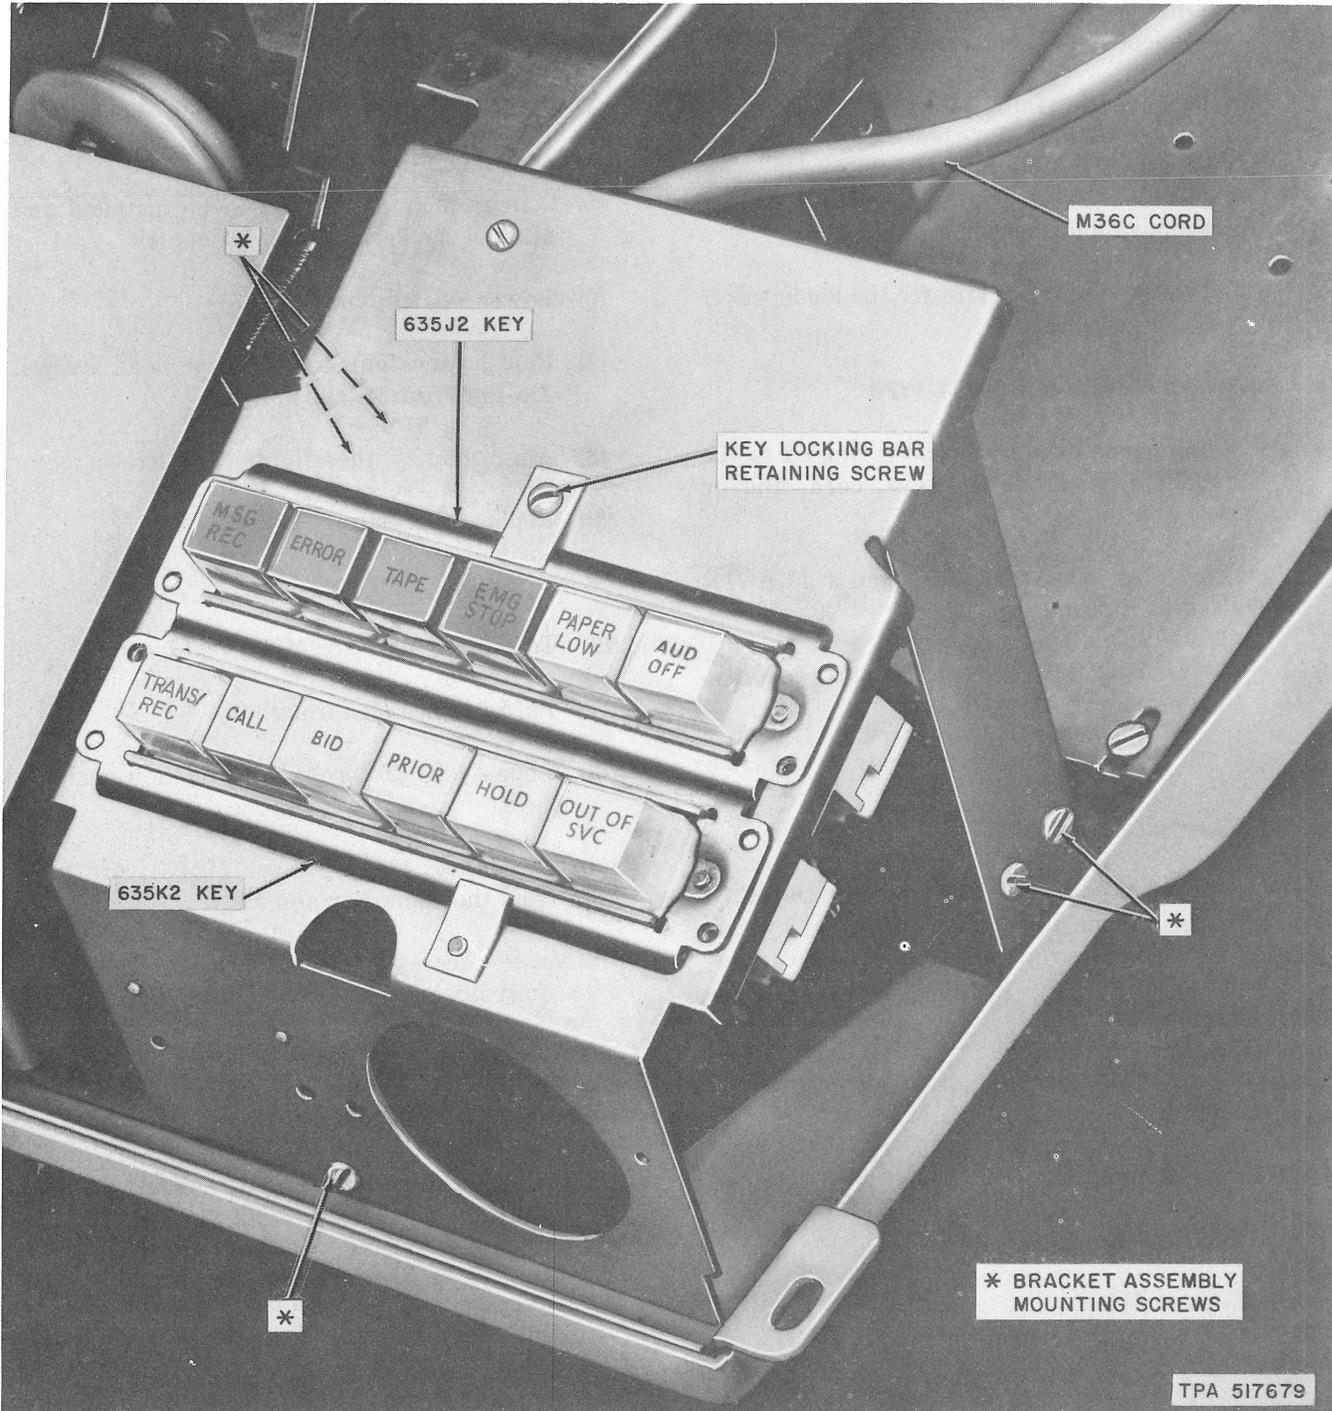

Fig. 8—DAS 804N4 Mounted in 35 ASR TTY
- (1) Remove the attendant set by removing the two screws (using an Allen wrench)
- (2) Loosen, but do not remove, the five bracket assembly mounting screws (Fig. 8).
- (3) Lift bracket assembly sufficiently to gain access to TS B.